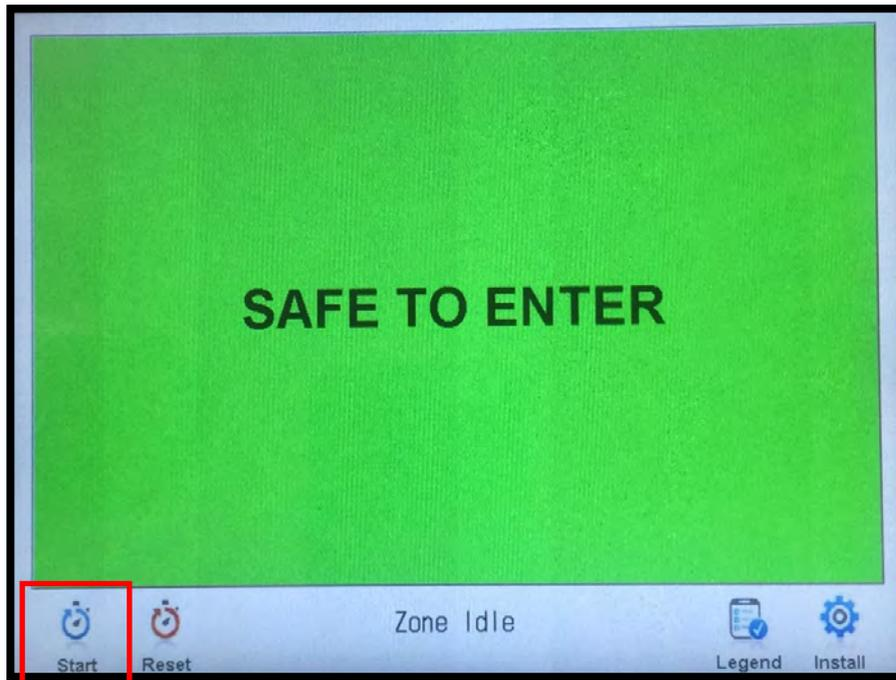

FIGURE 1
- 4.2.5 Activate the mRDS by pressing the "Start" button on the bottom-left corner of the Touchscreen Controller "Default Screen" (Figure 1).